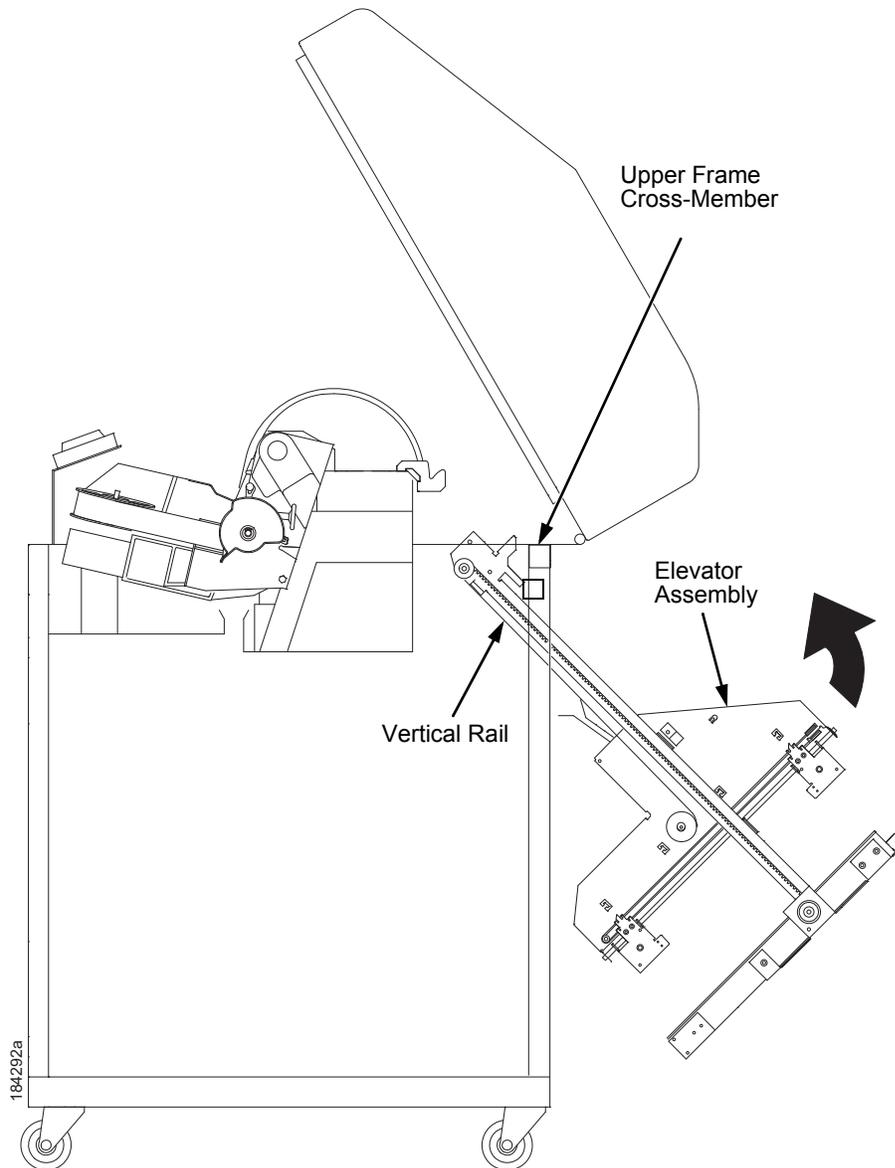

Figure 13. Removing the Stacker Assembly
15. Slide the stacker assembly slightly to the right to clear the air exhaust duct. Tilt the vertical rails toward the front of the printer until they clear the upper frame cross-member. Grasping the stacker assembly by the vertical rails, lift and slide it to the rear and angle it out of the cabinet, as shown in Figure 13.